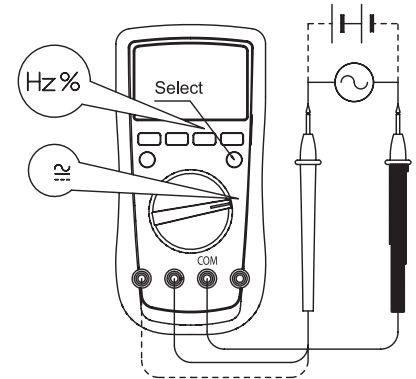

Figure 3
B. AC/DC CURRENT MEASUREMENT (See Figure 3)